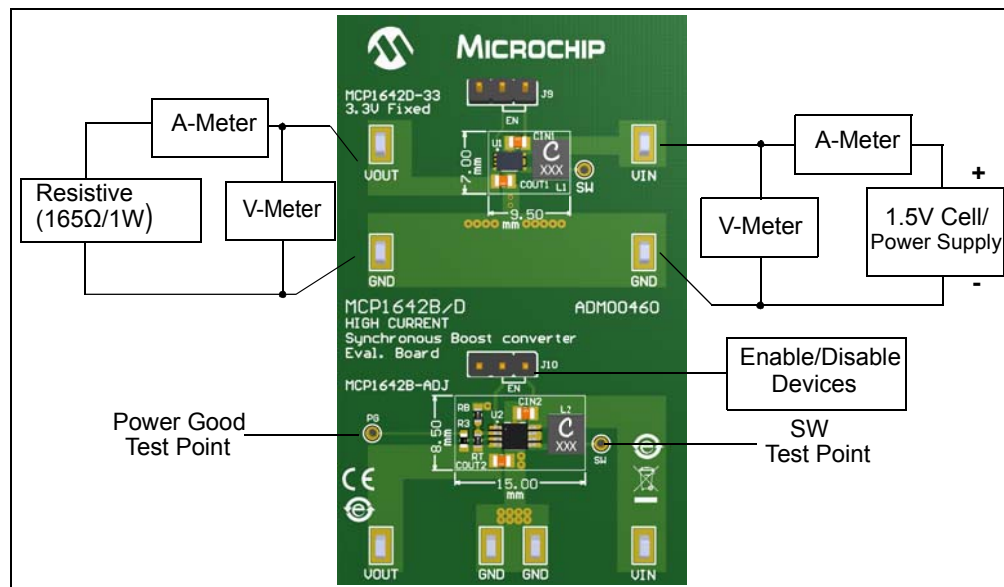

FIGURE 2-3: MCP1642 Evaluation Board Setup.
1. Connect the power supply/battery as shown in Figure 2-3. The positive terminal must be connected to V_{IN} and the negative terminal to GND.
2. The enable pin (EN) is by default connected to V_{IN} and, in this situation the converter is enabled and the output voltage can be measured on the V_{OUT} and GND terminals. To put the device in Shutdown mode, connect the EN pin to GND, by putting the jumper on the first two pins of J9 and J10, respectively.